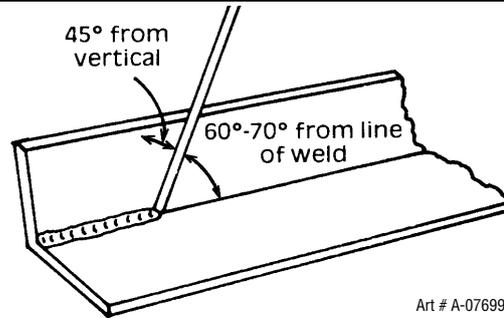
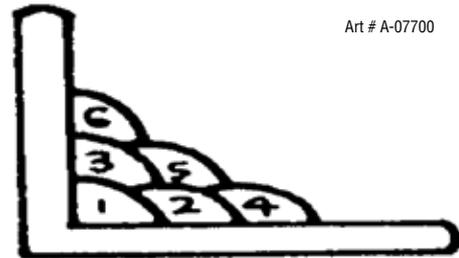

Figure 4-23: Electrode Position for HV Fillet Weld
Figure 4-24: Multi-runs in HV Fillet Weld
A piece of angle iron is a suitable specimen with which to begin, or two lengths of strip steel may be tacked together at right angles. Using a 3.2mm E7014 Stick electrode at 100 amps, position angle iron with one leg horizontal and the other vertical. This is known as a horizontal-vertical (HV) fillet. Strike the arc and immediately bring the electrode to a position perpendicular to the line of the fillet and about 45° from the vertical. Some electrodes require to be sloped about 20° away from the perpendicular position to prevent slag from running ahead of the weld. Refer to Figure 4-23. Do not attempt to build up much larger than 6.4mm width with a 3.2mm electrode, otherwise the weld metal tends to sag towards the base, and undercut forms on the vertical leg. Multi-runs can be made as shown in Figure 4-24. Weaving in HV fillet welds is undesirable.